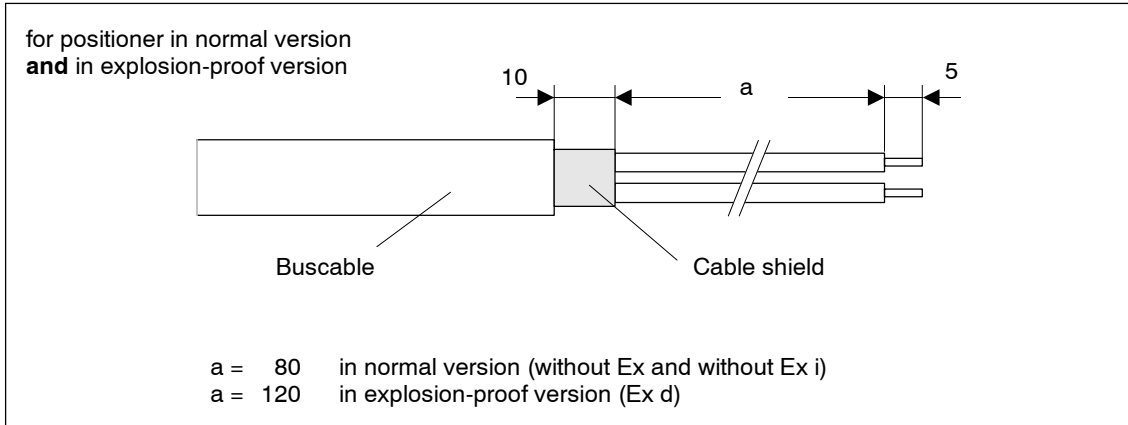

Figure 3-13 Preparation of bus cable
1. Isolate the bus cable as shown in figure 3-13, page 56.
2. To open the positioner, the cover catch (12) must be undone and the screw cover unscrewed.